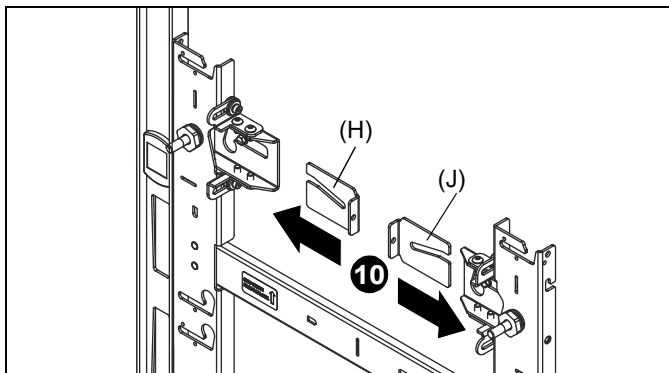

Figure 9
6. Partially install two lag screws into wall, but do NOT completely tighten to wall. (See Figure 9)
10. Slide the left (H) and right adjustment washers (J) into place behind the partially installed lag screws. (See Figure 9)